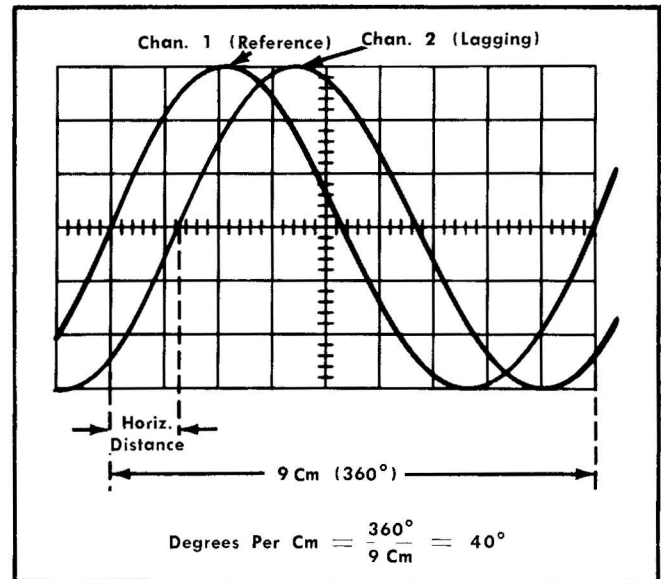

Fig. 3-3. Measuring phase shift between two sine waves.
For example, assume that the Time/CM switch setting is $2 \mu\text{sec}$, the Magnifier is set for $5\times$ magnification, and there is a horizontal distance of 3 cm (as shown in Fig. 3-3) between the leading edge of the reference waveform and the leading edge of the waveform displayed by Channel 2. Then substitute these values in the preceding formula:
5. Turn the oscilloscope Variable Time/Cm control counter-clockwise until 1 cycle of the reference signal occupies 9 cm horizontally. Use the Trigger Slope and Triggering Level controls to trigger on the reference waveform at any point you desire. Each cm on the graticule now represents 40° of 1 cycle (see Fig. 3-3).
6. Measure the horizontal distance, in cm, between corresponding points on the waveforms. Note the distance and whether the Channel 2 waveform is leading or lagging (see Fig. 3-3).